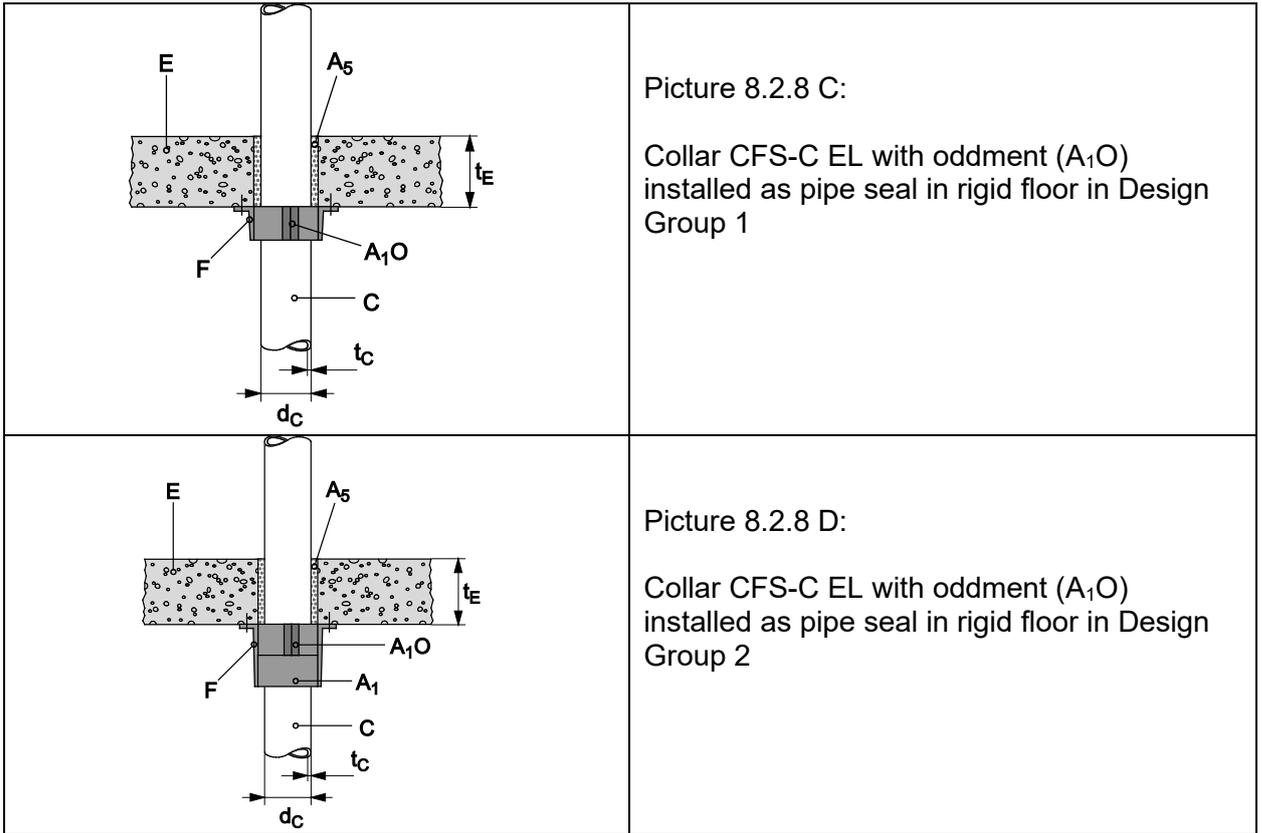

Figure 11: Position of CFS-C EL with oddment (A₁O) in wall and floor application
- Consider of position of modified CFS-C EL-collar - CFS-C EL with oddment (A_1O) always in direct wall or floor contact (see Figure 11)
- Inclined installation between 45° and 90° , see Figure 11